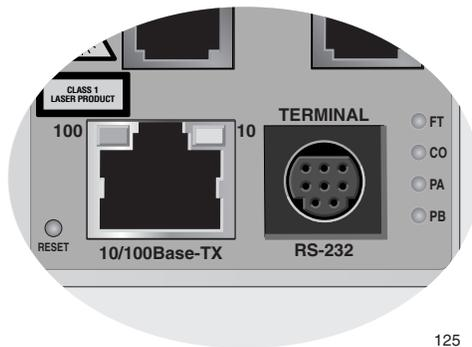

Figure 7. System LEDs
**System LEDs** To the right of the RS-232 terminal port are four system LEDs, as shown in Figure 7 and described in Table 6.